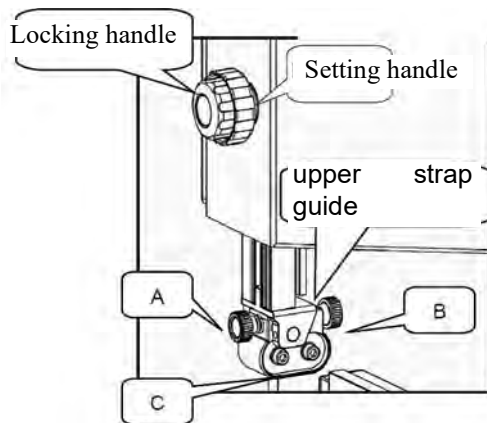
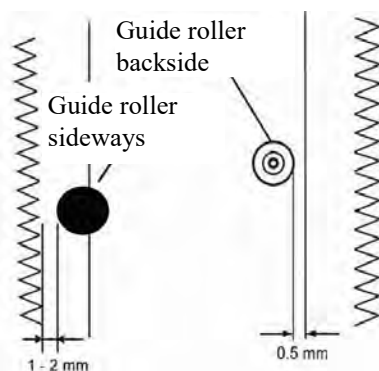

Fig. 36: Adjust the position of the upper strap guide
Fig. 37: Setting the guide bearings
Step 1: Loosen the saw blade guide wheel and use the dial to adjust the height. Then retighten the locking wheel (Fig.36).
Step 2: Loosen the screw (A, Fig.36) and adjust the position of the guide bearing so that the guide bearing is 1 or 2 mm (Fig.37) away from the teeth of the saw blade. Then tighten the screw (A, Fig.36).
Step 3: Loosen the screw (B, Fig.36) and set the back of the guide roller to 0.5 mm (Fig.37) behind the back of the blade. Tighten the knob (B, Fig.36) again.
Step 4: Loosen the screw (C, Fig.36) and set the guide bearing to a position 0.5 mm from the blade. Tighten the screw (C, Fig.36) again.